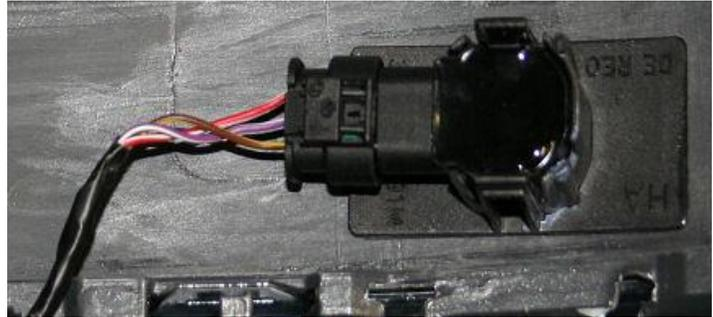
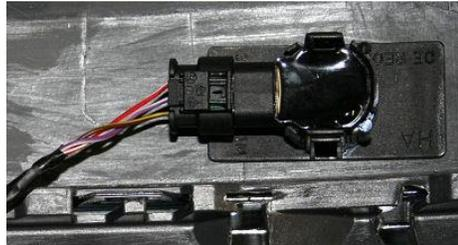

Figure 12. A correctly installed cable with sufficient length.
Figure 13. A sensor cable with insufficient length.
12. Check the cables in the bumper for damage and sufficient length (Figure 12 and Figure 13). Cables that are too short can cause damage to the harness.